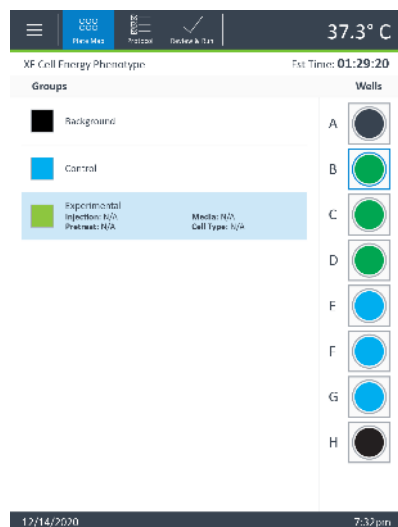

Figure 4. Groups.
- 1 To see the conditions defined for a group, click the group name and look at the header information, as shown in **Figure 4**.